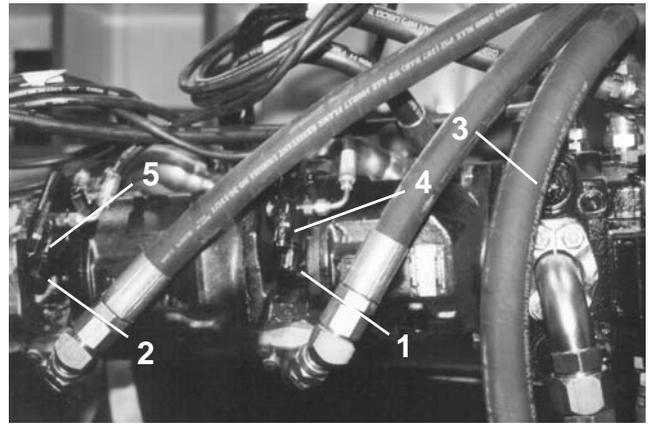

Figure 28. Pumps
The standby pressure adjustment is higher adjustment of the two adjustments at the rear of the pump (Fig 28 Ref 5).
4) Loosen the jam nut on the rear pump and turn the set screw until the pressure reads 400 psi on the gage. If the pressure will not get to 400 psi, loosen the jam nut on the front pump (Fig 28 Ref 4) and turn the set screw clockwise one turn. Return to the rear pump and set the pressure to 400 psi. Tighten the jam nut. Shut the engine off.
7) To make an adjustment, use a 17mm wrench to remove protective cap from relief set screw located to the rear of the pump on the curbside of the chipperspreader. Of the two adjustments at this location, the high pressure relief is the lower one of the two (Figure 28, Ref 2).
8) Loosen the jam nut and turn the set screw clockwise using a 5mm allen wrench until the pressure reads 2900 psi on the gage. If the pressure will not get to 2900 psi, loosen the jam nut on the front pump (Figure 28, Ref 1) and turn the set screw clockwise one turn. Return to the rear pump and set the pressure to 2900 psi. Tighten both jam nuts and replace both protective covers once the pressures are set. Shut off engine.
3) To make an adjustment, use a 17mm wrench to remove protective cap from set screw located to the rear of each pump on the curbside of the chipperspreader. The standby pressure adjustment is higher adjustment of the two adjustments at the rear of the pump (Fig 28 Ref 4).
remove protective cap from relief set screw located to the rear of the pump on the curbside of the chipspreader. Of the two adjustments at this location, the high pressure relief is the lower one of the two (Figure 28, Ref 1).